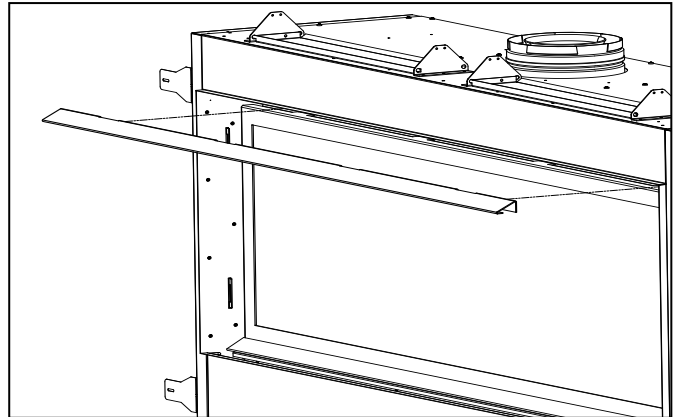

Figure 34: CSS Bolt Cover
3. There is a CSS cover on the inner top of the cabinet that must be removed. It is attached using seven (7) #8 T20 screw. Remove these screws and remove the cover (see Figure 34).